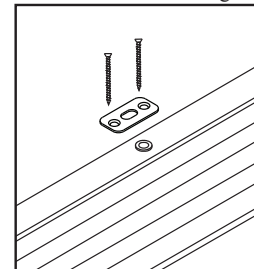

Figure 4
Fasten the sill keeper plate with (2) #8 1-1/4" screws. See Figure 4.